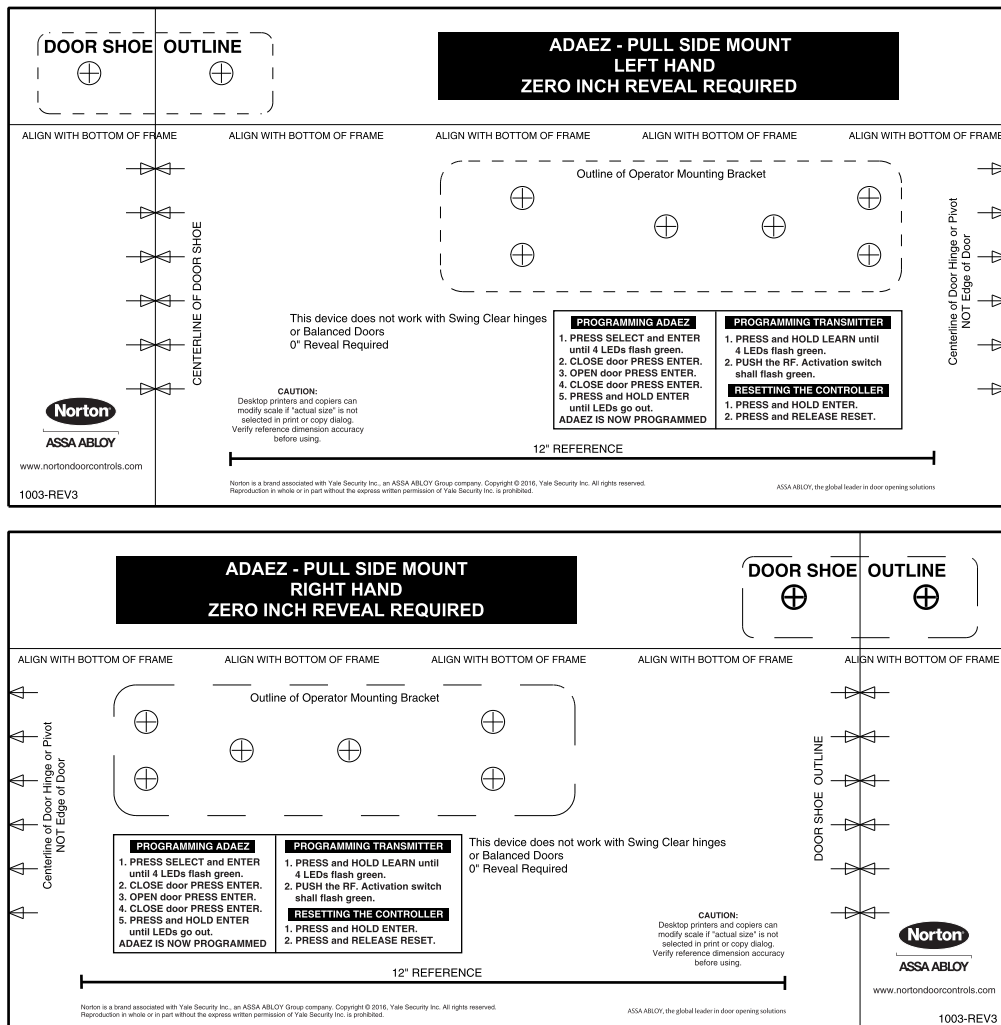

Figure 17
1. SELECT the right hand or left hand side of the operator mounting template as applicable. Refer to Figure 17.